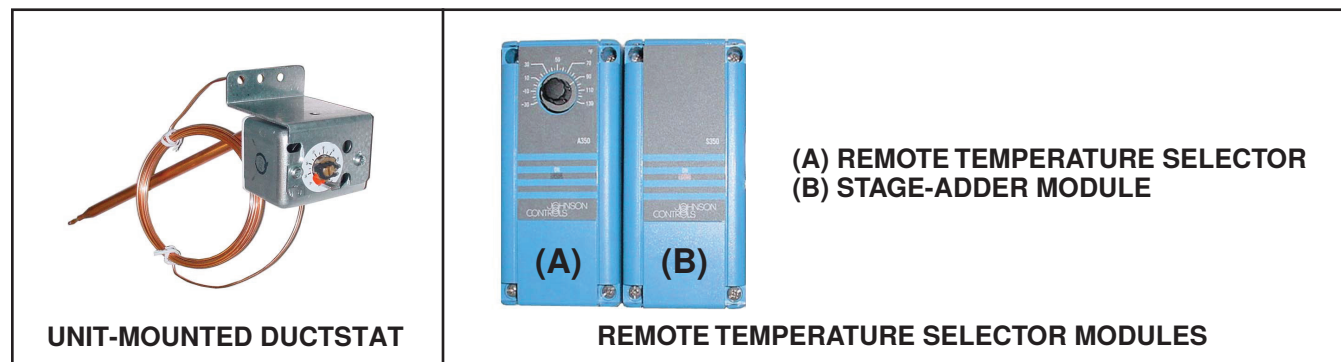

Figure 28. Unit-Mounted Ductstat and Remote Temperature Selector Modules
Two-stage makeup air units are equipped with a two-stage gas valve, but instead of control from a two-stage room thermostat, the outlet air temperature is monitored and controlled by a two-stage ductstat. When discharge air temperature drops to the setpoint, low fire is energized. If low fire cannot satisfy the ductstat setting, high fire is energized. Makeup air applications are usually adjusted to maintain discharge air temperature between 65°F (18°C) and 75°F (24°C). In all applications, the allowable temperature rise of the furnace in the installation dictates the limits of the ductstat temperature setting. Depending on the option selection, the factory-installed sensor is either field-connected by capillary tubing to the unit-mounted ductstat (see Figure 28), which is factory-set at 70°F (21°C), or electrically-connected to a remote electronic temperature selector (see Figure 28).
- **Ductstat with capillary tubing (option AG3):** The unit-mounted ductstat shown in Figure 28 has an adjustable range of 0°F to 100°F (–17.8°C to 37.8°C) with a fixed differential of 3°F (1.7°C). Due to different cfm settings and outside air temperatures, the average downstream outlet temperature may not match the ductstat setting exactly. After the installation is complete, adjust the setpoint of the ductstat to achieve the desired average outlet air temperature.
- **Ductstat with electronic remote setpoint module (option AG15):** The sensing probe is field-wired to the remote temperature selector shown in Figure 28, which has a temperature operating range to 120°F (49°C). The remote modules and sensing probe are shipped separately for field-installation. Follow the wiring diagram provided with the unit and the manufacturer's instructions for wiring and installation. One module is for selecting temperature and the other is a one-stage adder module.